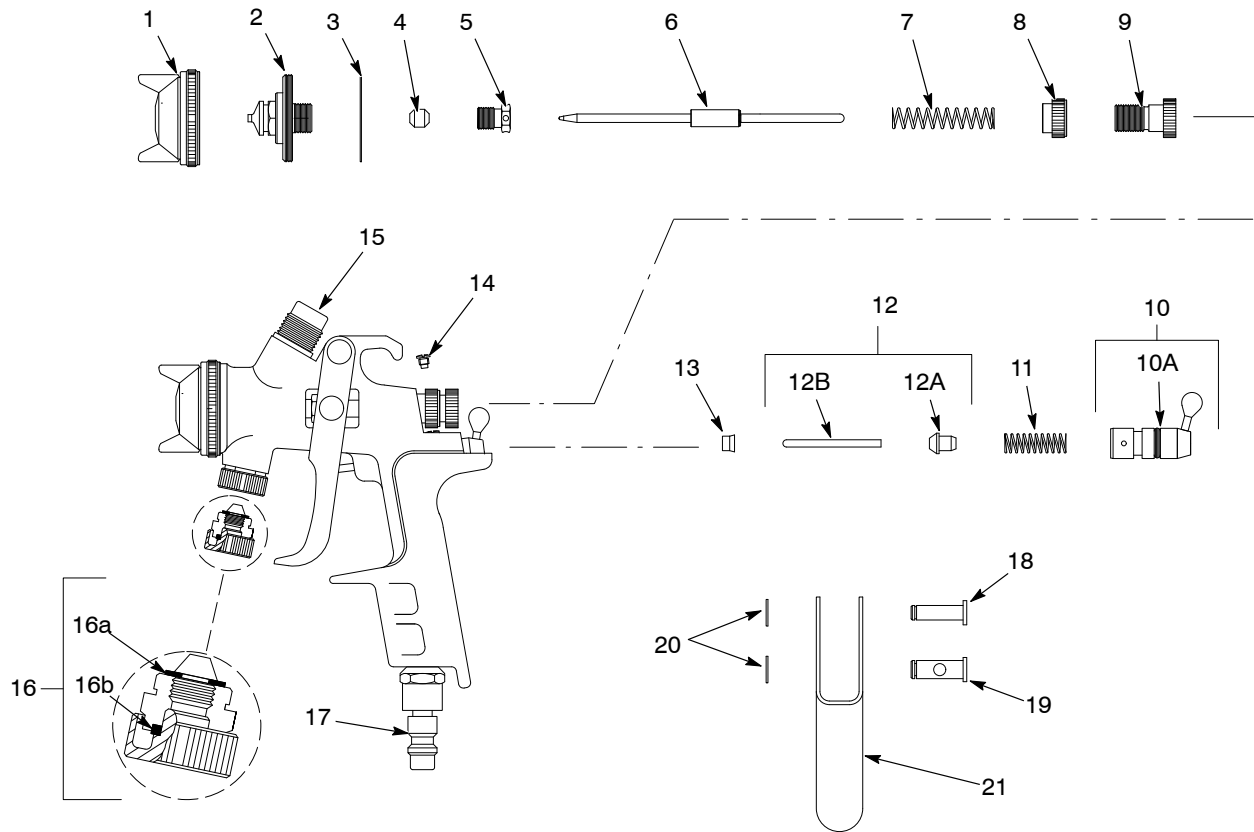

Figure 4 Trilogy AS and LVLP Gravity Fed Spray Gun Parts
See Figure 4. The trigger pin (18), valve pin (12B), and paint needle (6) should be lubricated with silicone-free oil daily.
These troubleshooting procedures cover only the most common problems. If you cannot solve a problem with the information given here, contact your local Nordson representative for help. See Figure 4 for parts information.
See Figure 4 for all repair procedures.